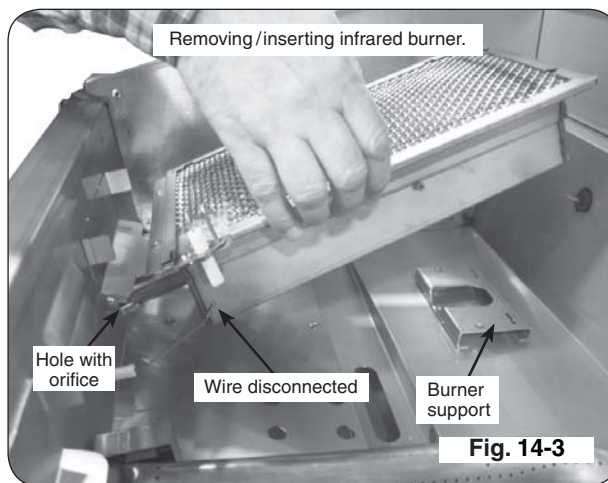

Fig. 14-3
4. Carefully lift the infrared burner from the burner support and out from the hole in the forward fire wall (see Fig. 14-3).
5. Using a $\frac{3}{8}$ " socket, remove the orifice from the valve. Access this through the hole in the forward firebox plate (see PARTS LIST and Fig. 14-3). Check the number stamped on the face of the orifice (see Table 1).